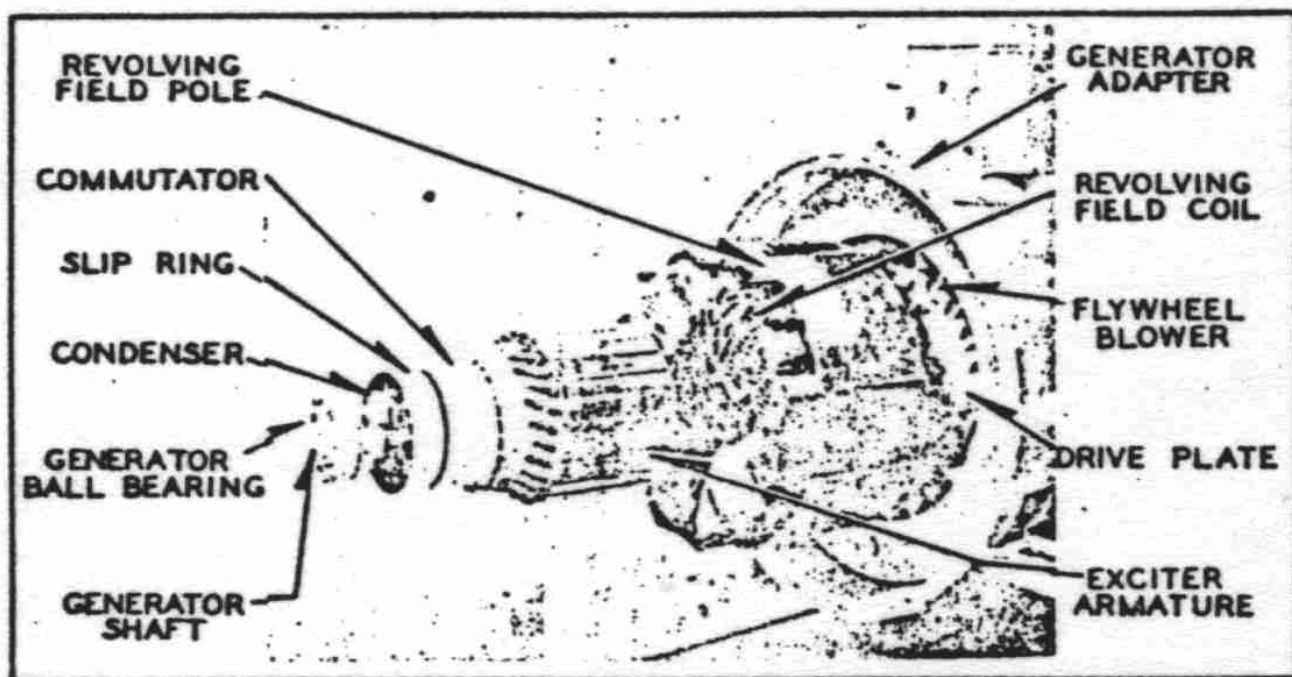

FIG. 13 ROTOR ASSEMBLY
a. Purpose.—The generator, Figs. 13 and 40, receives mechanical power from the engine and converts it to electrical power. It consists of a d-c exciting generator and a revolving field type of alternator.
(1) Residual magnetism remains in the magnetic circuit of the exciter when not in operation. When the engine is started, the armature revolves and carries its conductors by the field poles. The cutting of magnetic lines of force by these conductors as they pass poles of alternate polarity induces alternating voltages in the conductors. The conductors are connected with commutator bars which revolve under, and in contact with, the exciter brushes. The various parts are so placed that the commutator bars in contact with any given brush always have the same polarity and direct current flows in the exciter circuits outside the armature.
(2) A small portion of this current passes through the exciter field winding and increases the field strength which, in turn, greatly increases the voltage induced in the conductors. The exciter voltage thus builds up to a maximum of approximately 28 volts at normal operating speed.
(3) The greater portion of the exciter output is used to excite the alternator revolving field, being connected with the alternator field windings by means of the brushes and slip rings.
(4) The exciter also operates as a starting motor and cranks the engine electrically. When the storage battery is properly connected to the exciter, strong magnetic fields are set up in the armature and field and cause the armature to revolve, thus cranking the engine. The series field winding adds greatly to the strength of the magnetic field and to the cranking power. The battery is connected to the exciter by means of the solenoid starting switch which is controlled by the START button on the control panel.